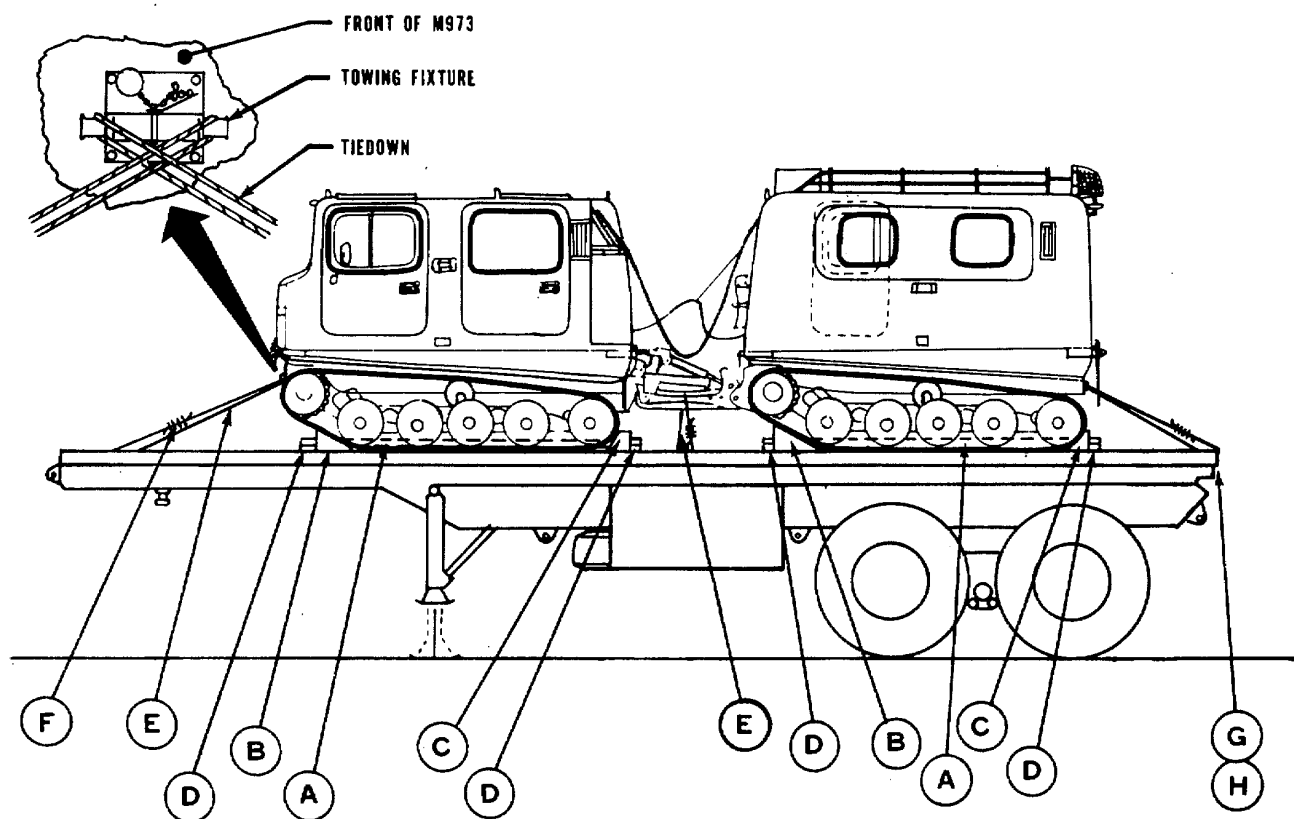

Figure 5-1. Side elevation, tiedown of the M973 on the M127A1 semitrailer
a. *General.* Figures 5-1 and 5-2 show the M973 loaded on the M127A1 semitrailer. Figure 5-3 shows details of blocking and tiedown materials used to restrain the M973 on the semitrailer.
Table 5-1. Bill of Materials for Blocking and Tiedown of the M973 on the M127A1 Semitrailers (Figs 5-1, 5-2, and 5-3).
Table 5-2. Application of Material for Blocking and Tiedown of the M973 on the M127A1 Semitrailer (Figs 5-1, 5-2, and 5-5).
d. *Tiedown.* Figures 5-1, 5-2, and 5-3 show the M973 tied down, in accordance with standard loading practices, so the load will be adequately restrained against forces encountered at normal speeds and operating conditions.